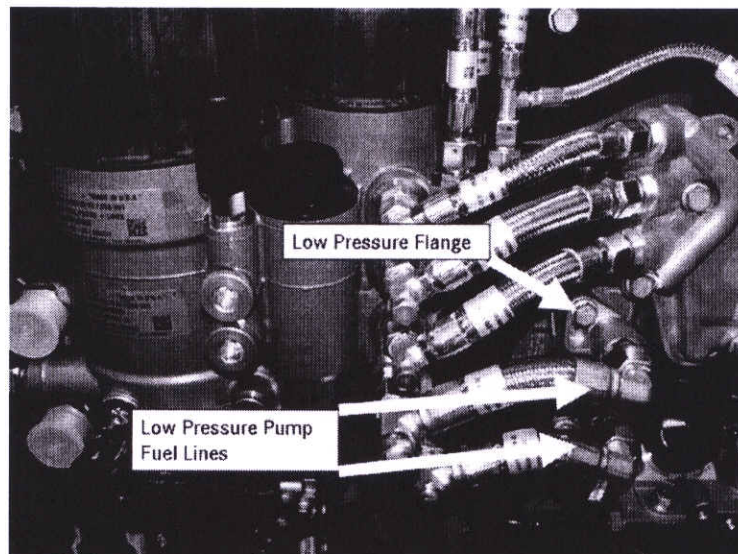

Figure 1 – Low Pressure Flange And Fuel Lines
2. **REFERENCE** sections 9.2 and 12.2 of the EPA07/10 Fuel Manual (DDC-SVS-MAN-0082) for complete removal instructions. See Figure 1.